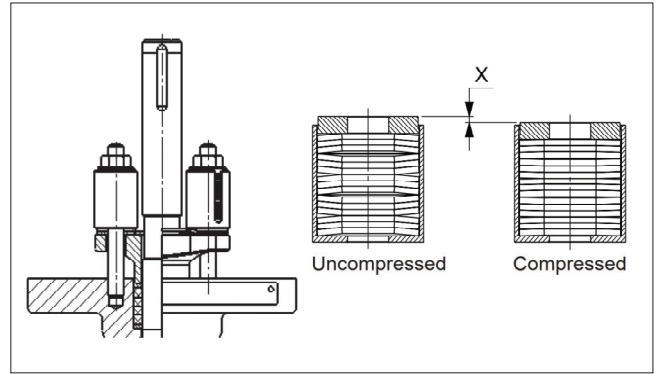

Fig. 12 High performance live-loading
- For the high performance live-loading option (Figure 12), pre compress the gland packing by length X until the top cap reaches the shell holder (housing) to ensure proper force in use.